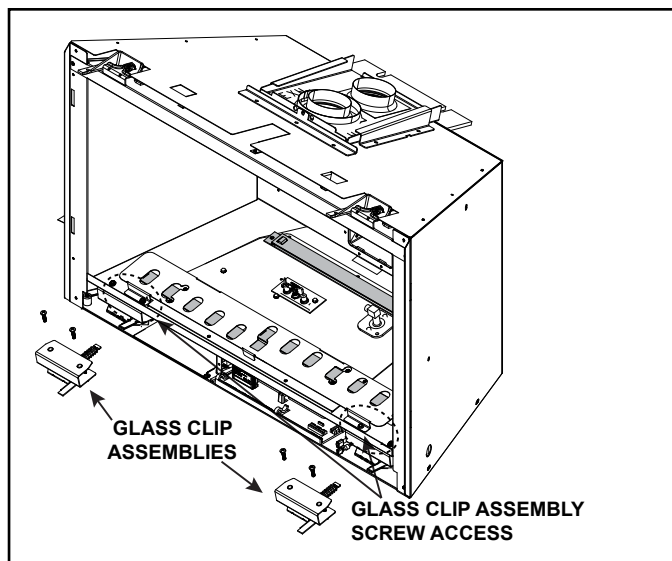

Figure 7.2 Glass Clip Assembly Removal
- Glass clip assemblies can be removed for additional component accessibility. See Figure 7.2.